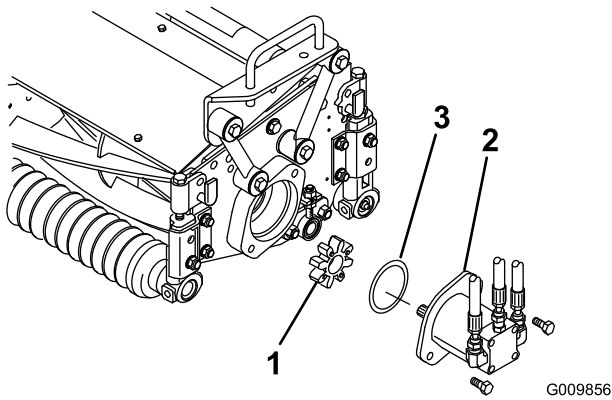

Figure 8
2. Remove the bearing housing cover (Figure 4) from the inside end of the right-hand cutting unit. Install the cover and gasket (supplied with the cutting unit) on the outside end. Locate the spider coupling (Figure 8) shipped in the bearing housing.
3. Insert the O-ring (supplied with the cutting unit) on the flange of the drive motor (Figure 8).
4. Mount the motor and the spider coupling to the drive end of the cutting unit and secure them with 2 bolts provided with the cutting unit (Figure 8).